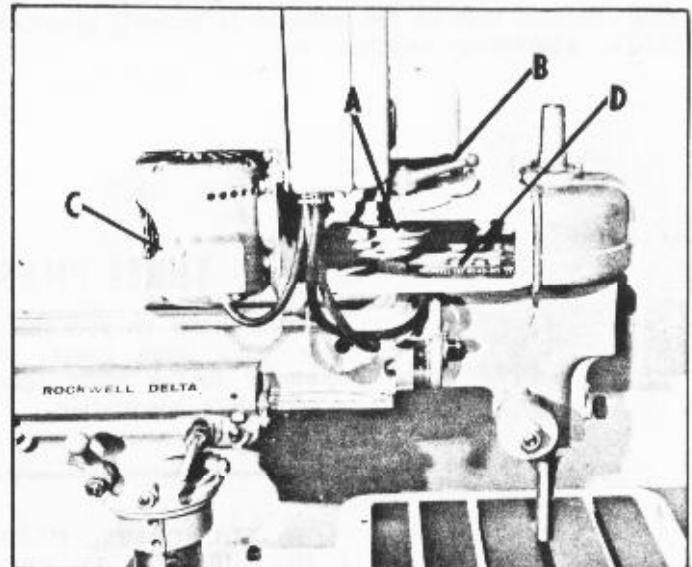

Fig. 8
2. When changing the position of the belt on the spindle pulley and the lower jackshaft pulley (A) Fig. 8, simply loosen lock handle (B) and pivot the motor (C) forward to release belt tension. Position the belt (D) on the desired steps of the spindle and lower jackshaft pulleys and move the motor back until proper belt tension is obtained. Then tighten lock handle (B) Fig. 8.